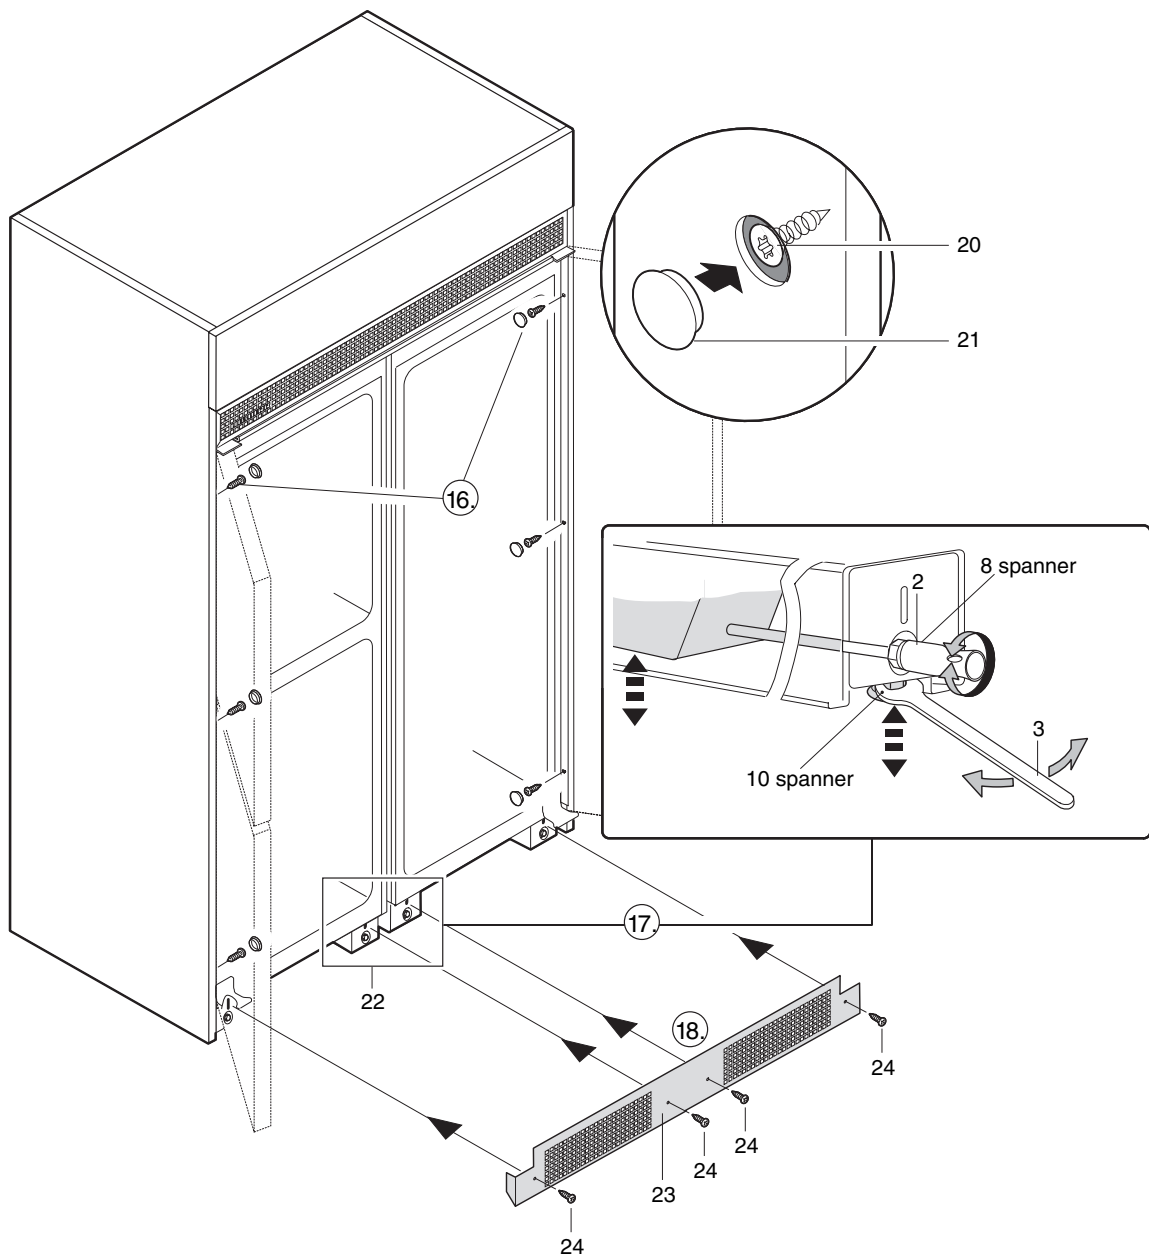

Figure 32
16. **Figure 32:** Attach the *aligned* combination to the surrounding kitchen cabinet. Secure it through the side frames using the screws (20) provided.
- Cover the screws with cover caps (21).
17. Now adjust the center adjustable roller bases (22) so that they **make slight contact with the floor**.
18. Install the lower ventilation grille (23): Secure the ventilation grille so that it touches the floor and adjust it using the slots. Do not overtighten!